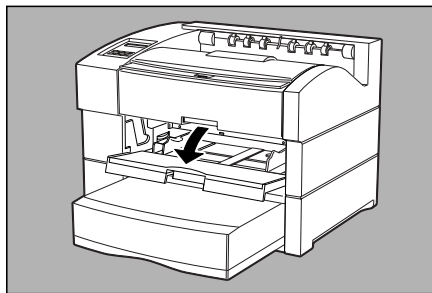

Fig. 4.11 Open Multipurpose Feeder
1. Open the multipurpose feeder by grasping the handle in the top center of the cover and pulling down (fig. 4.11).